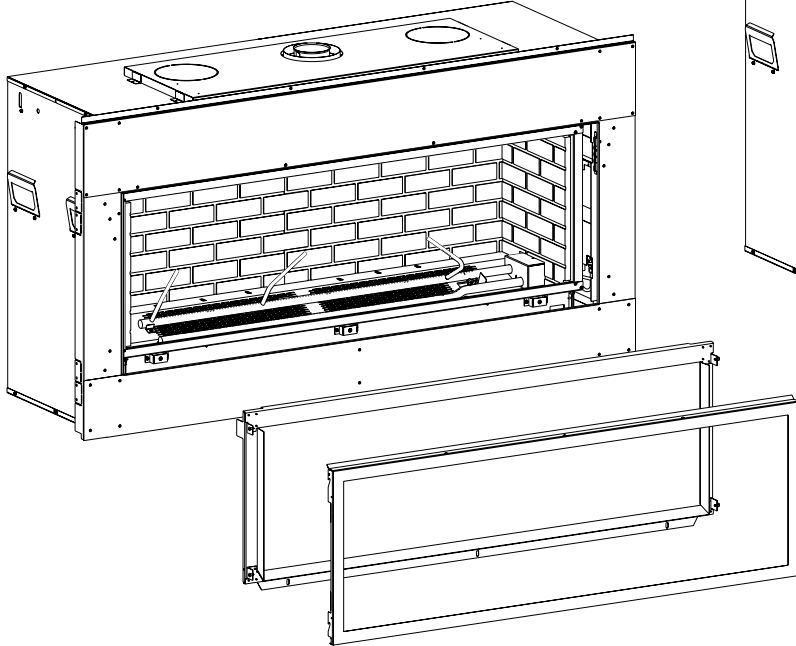

Figure 25
1. Remove the following items: **See Figure 25.**